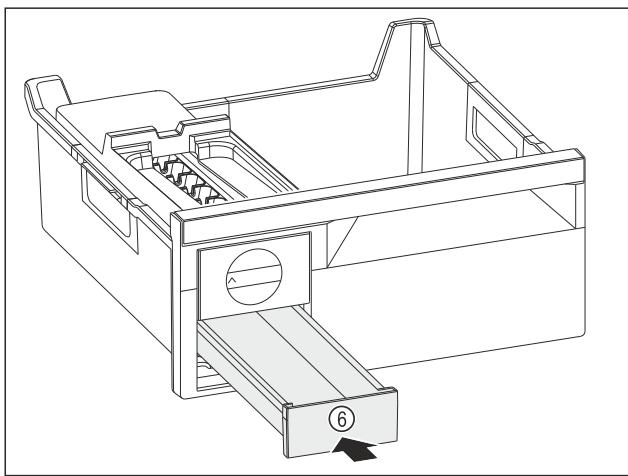

Fig. 176
- ▶ Insert the ice cube drawer Fig. 176 (6).